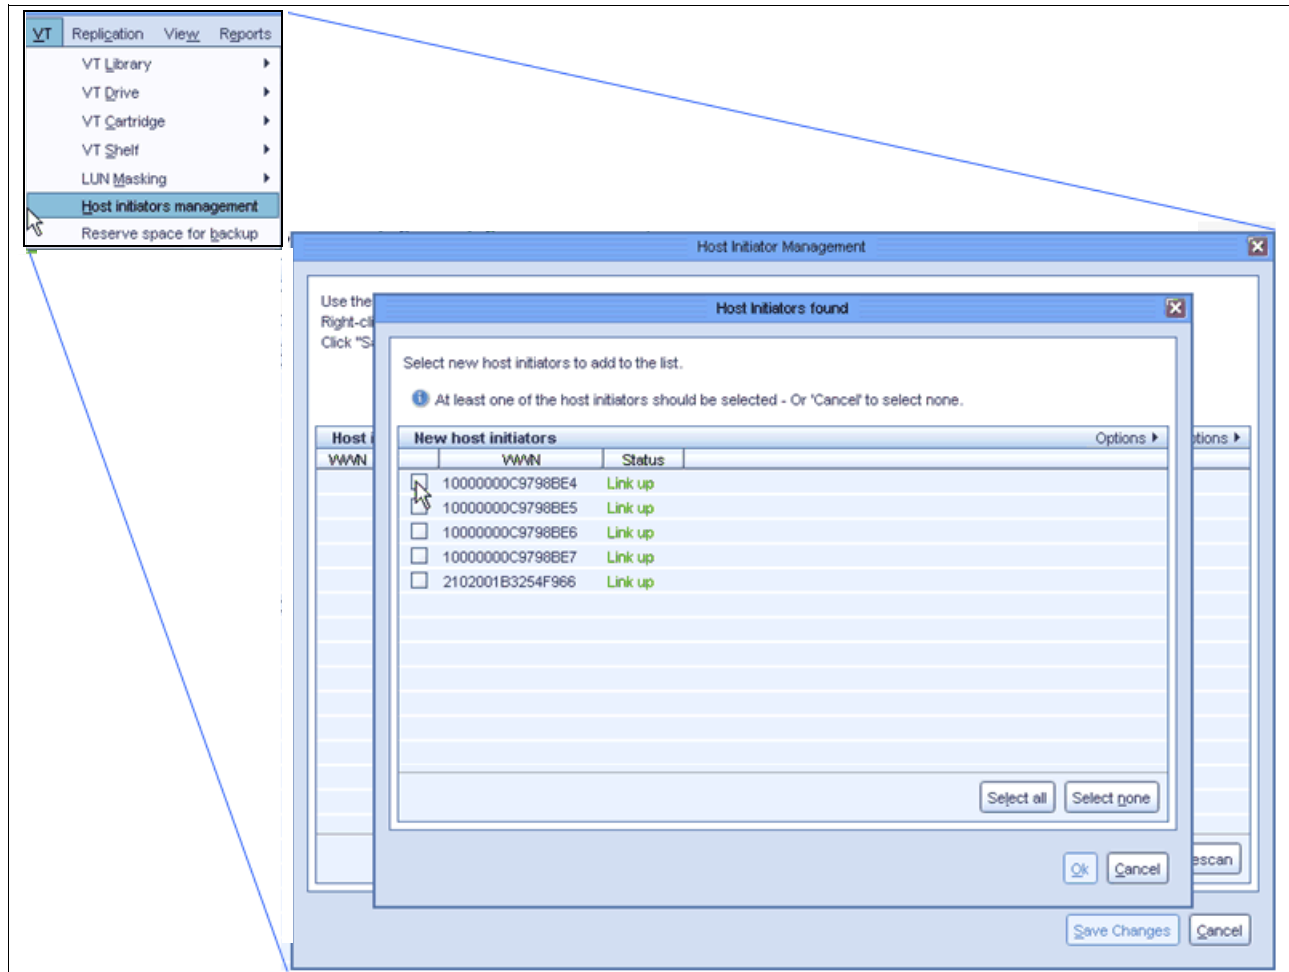

Figure 7-7 Host initiator management
2. Select one or more host initiators from the list, or manually add the host initiator by entering the appropriate worldwide name (WWN), as shown in Figure 7-7.